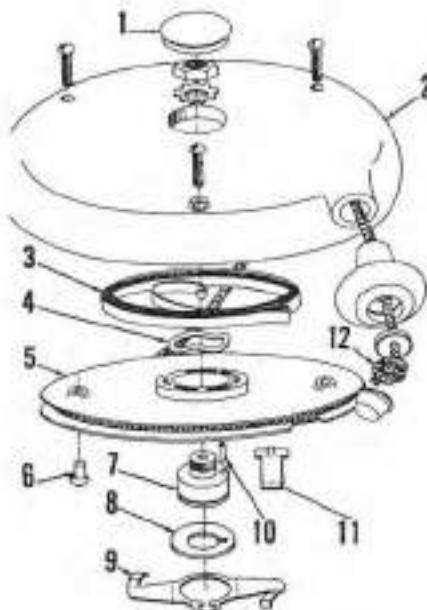

Fig. Mc12—Exploded view of recoil starter assembly.
Fig. Mc12 shows an exploded view of the recoil starter assembly. To renew the starter pawls (11) or friction spring (8), remove the starter assembly, remove retaining ring from bottom of pivot bolt (7), then slip the spring and pawls from starter assembly.